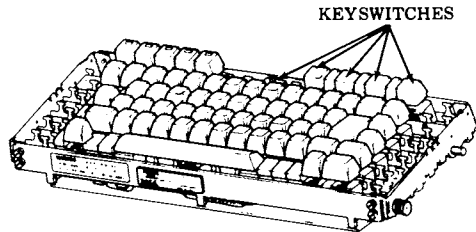

Fig. 13—Keyswitch Identification
- (b) Remove the INTERLOCK, PRINTER TEST, PARITY, DUPLEX and CPS keyswitches (Fig. 13).